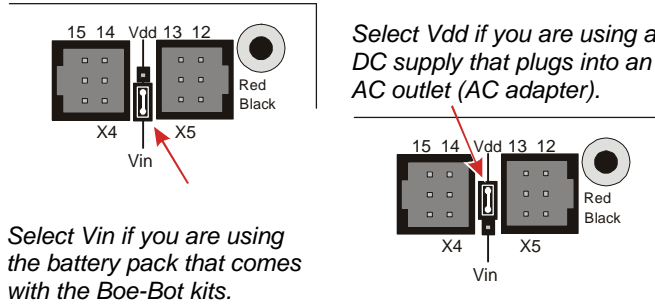

Figure 2-12
Figure 2-12 shows the servo header on the Board of Education. This board features a jumper that you can use to connect the servo's power supply to either Vin or Vdd. To move it, you have to pull it upwards and off the pair of pins it rests on, then push it onto the pair of pins you want it to rest on.
- ✓ If you are using the 6 V battery pack, make sure the jumper between the servo ports on the Board of Education is set to Vin as shown on the left of Figure 2-12.
- ✓ If you are using a 7.5 V, 1000 mA center positive DC supply, set the jumper to Vdd as shown on the right side of Figure 2-12.